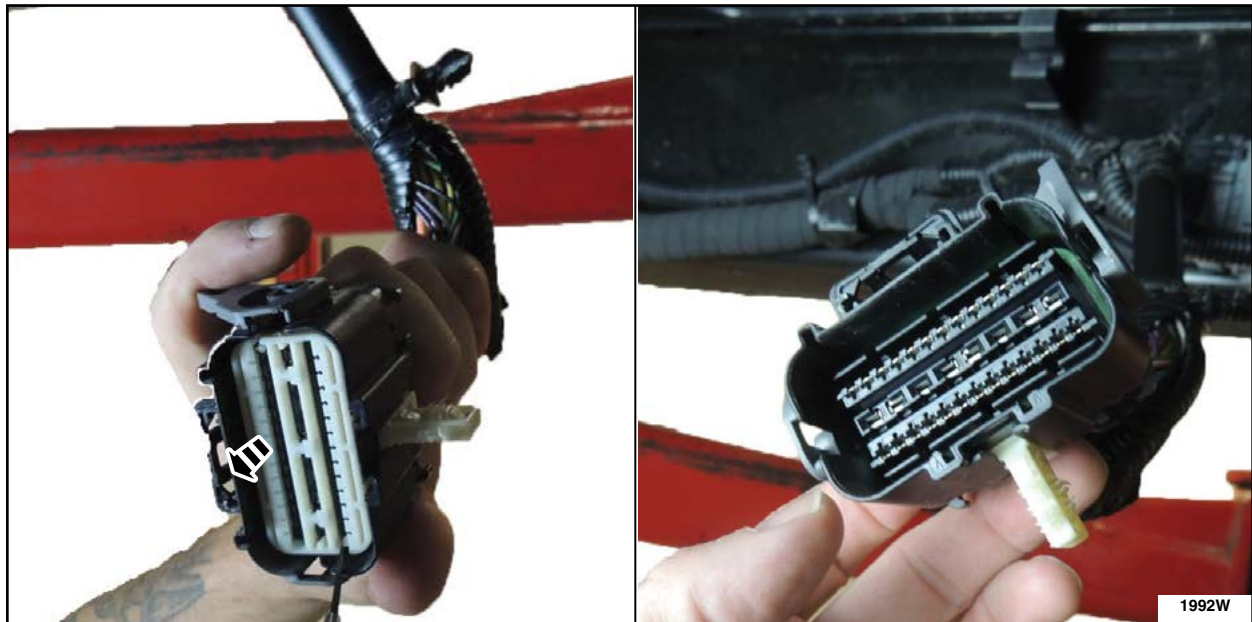

FIGURE 26
2. Using a 90° pick and a small pair of needle nose pliers, remove the white pin terminal locking tab from the original/damaged connector hard shell. See Figure 26.